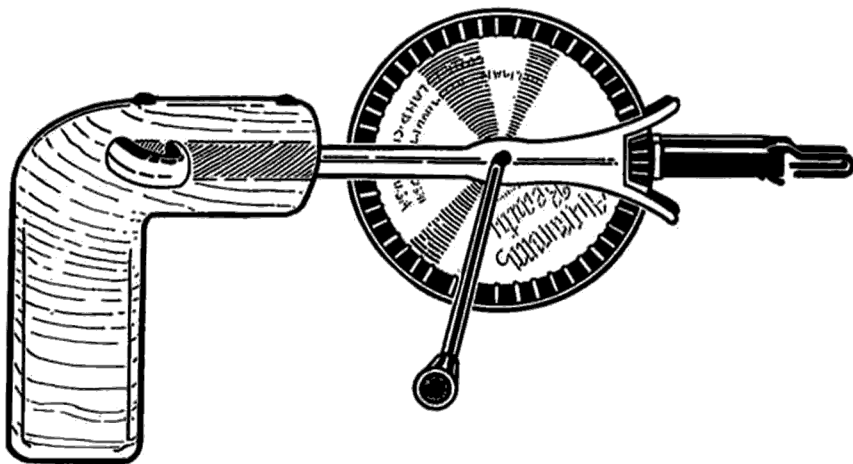

FIGURE 91. COMMERCIAL WINDER WITH HOMEMADE PISTOL GRIP
**WINDERS.** These may be purchased from any model supply house, or they can be easily made. If purchased, the handle of the winder can be improved by adding a pistol grip, as in Fig. 91. Two wood sides are cut